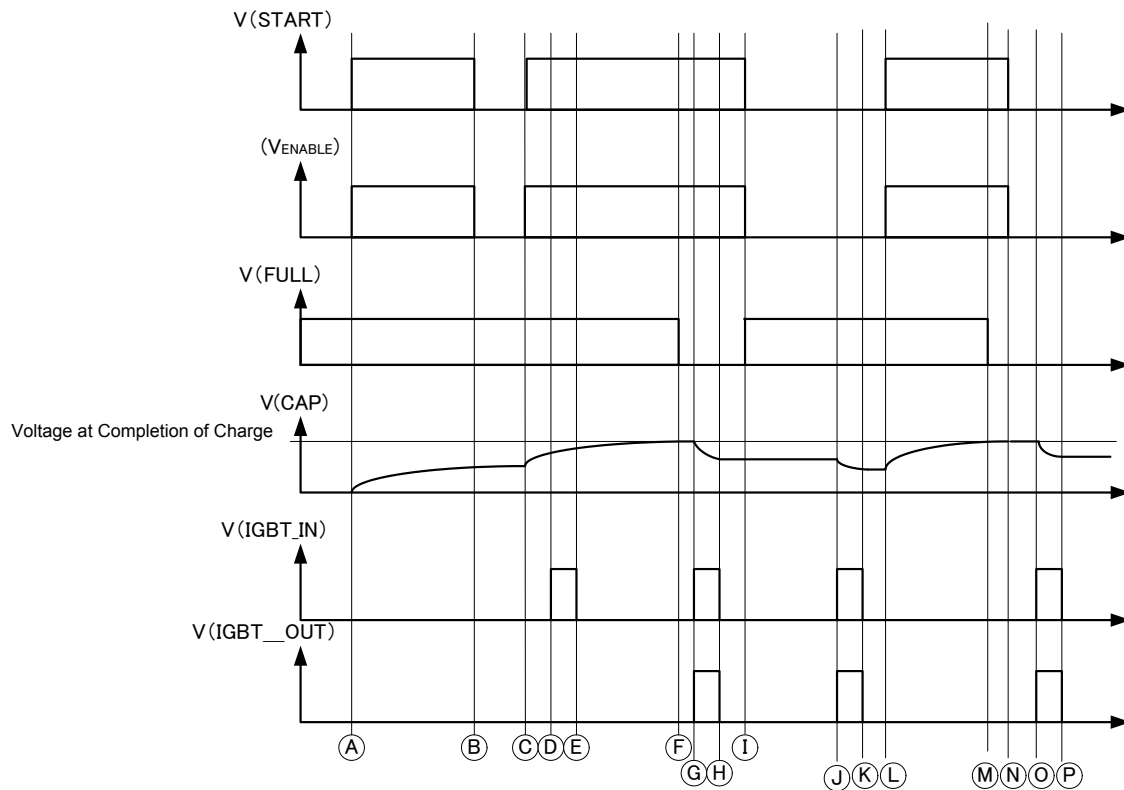

Fig 33 Timing Chart 1: Overall Operation
In this IC, a charging operation starts when the START pin is set to "H" (See Time ①, ③ and ④ in Fig 33.). In order to maintain the charging operation, the START pin must be set to "H". (See Time ① to ②, ③ to ④, ⑤ to ⑥ in Fig 33.) If any of the conditions ① to ③ are satisfied, the charging operation stops.
- ① The START pin is set to "L".
- ② Charging is completed. The VC pin voltage reaches the specified voltage. (See Time ⑤ and ⑥ in Fig 33.)
To re-charge, set the START pin to "L", and the FULL pin is changed from "L" to "H". Also, if the CHARGE_ON pin is changed from "L" to "H" again, the charging operation re-starts. (See Time ③ in Fig 33.)
Set the IGBT_IN pin to "H" when the IGBT driver satisfies the following 4 conditions. The "H" signal is output to the IGBT_OUT pin. (See Time ⑦, ⑧ and ⑨ in Fig 33.)
- ① The VCC voltage is the UVLO release voltage or more.
- ② The FULL pin is set at "L".
- ③ Even if the IGBT_IN pin is set to "H" while the START pin is set to "H", the IGBT_OUT pin remains at "L" and no light flashes.